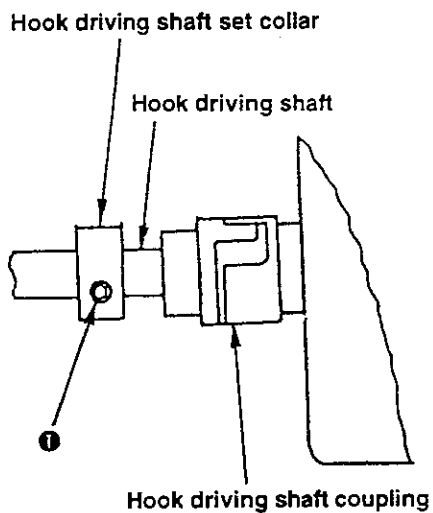

Fig. 3
<ol style="list-style-type: none"> 1. Set the stitch dial at "0" on the scale. (Fig. 1) 2. Loosen screw ❶ in the thrust collar of the hook driving shaft. (Fig. 3) 3. Align the graduation "L" on the handwheel with the handwheel pointer. (Fig. 1) 4. Turn the hook in the normal direction of rotation until the blade point of the hook is aligned with the center of the needle. 5. Tighten screw ❶. <p>(Caution) Adjust the needle entry in the needle slot of the feed dog in terms of the feeding direction in prior to the adjustment of "Timing between the needle and the hook".</p>	<p>☆ Loose stitches, stitch skipping and thread breakage may result.</p> <p>3' Refer to "(1) Kinds and names of graduations on the handwheel" on page 5.</p> <p>At this time, hold the hook by hand at the correct position to maintain the accurate needle-to-hook timing.</p>